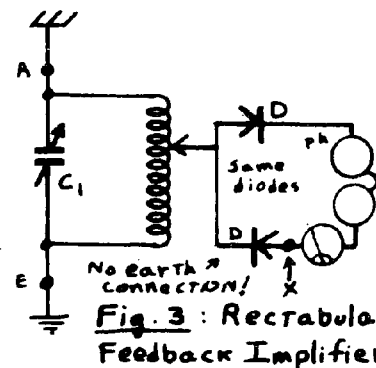

Fig. 3 : Rectangular Feedback Amplifier
10) Here is something strange: Fig. 3. No earth connection! Tap at 50-100% of coil, depending on signal strength vs selectivity. Compare signal strength (On meter) with strength after earth is connected to point "X". The explanation is fairly obvious if you think about it, but has some unusual consequences which I'll explore in Part II here one day.